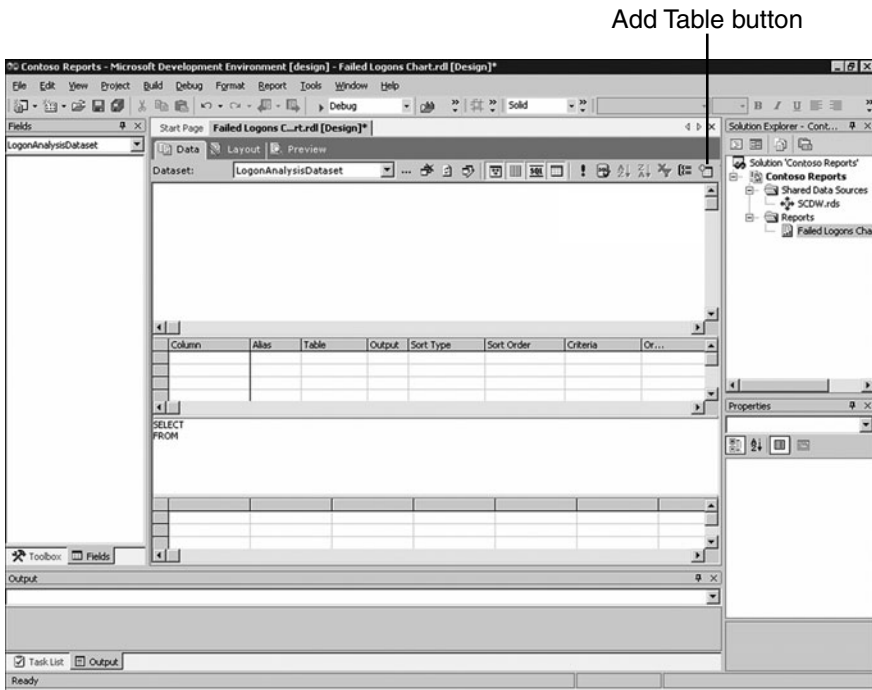

FIGURE 21.15 The Add Table button.
6. Click the Add Table button, shown in Figure 21.15, to open the Add Table window. Select the Views tab; then scroll down and select SDKEventView from the list of available views. Click Add; then click Close to return to the design window. A visual representation of the view will be added to the diagram pane.